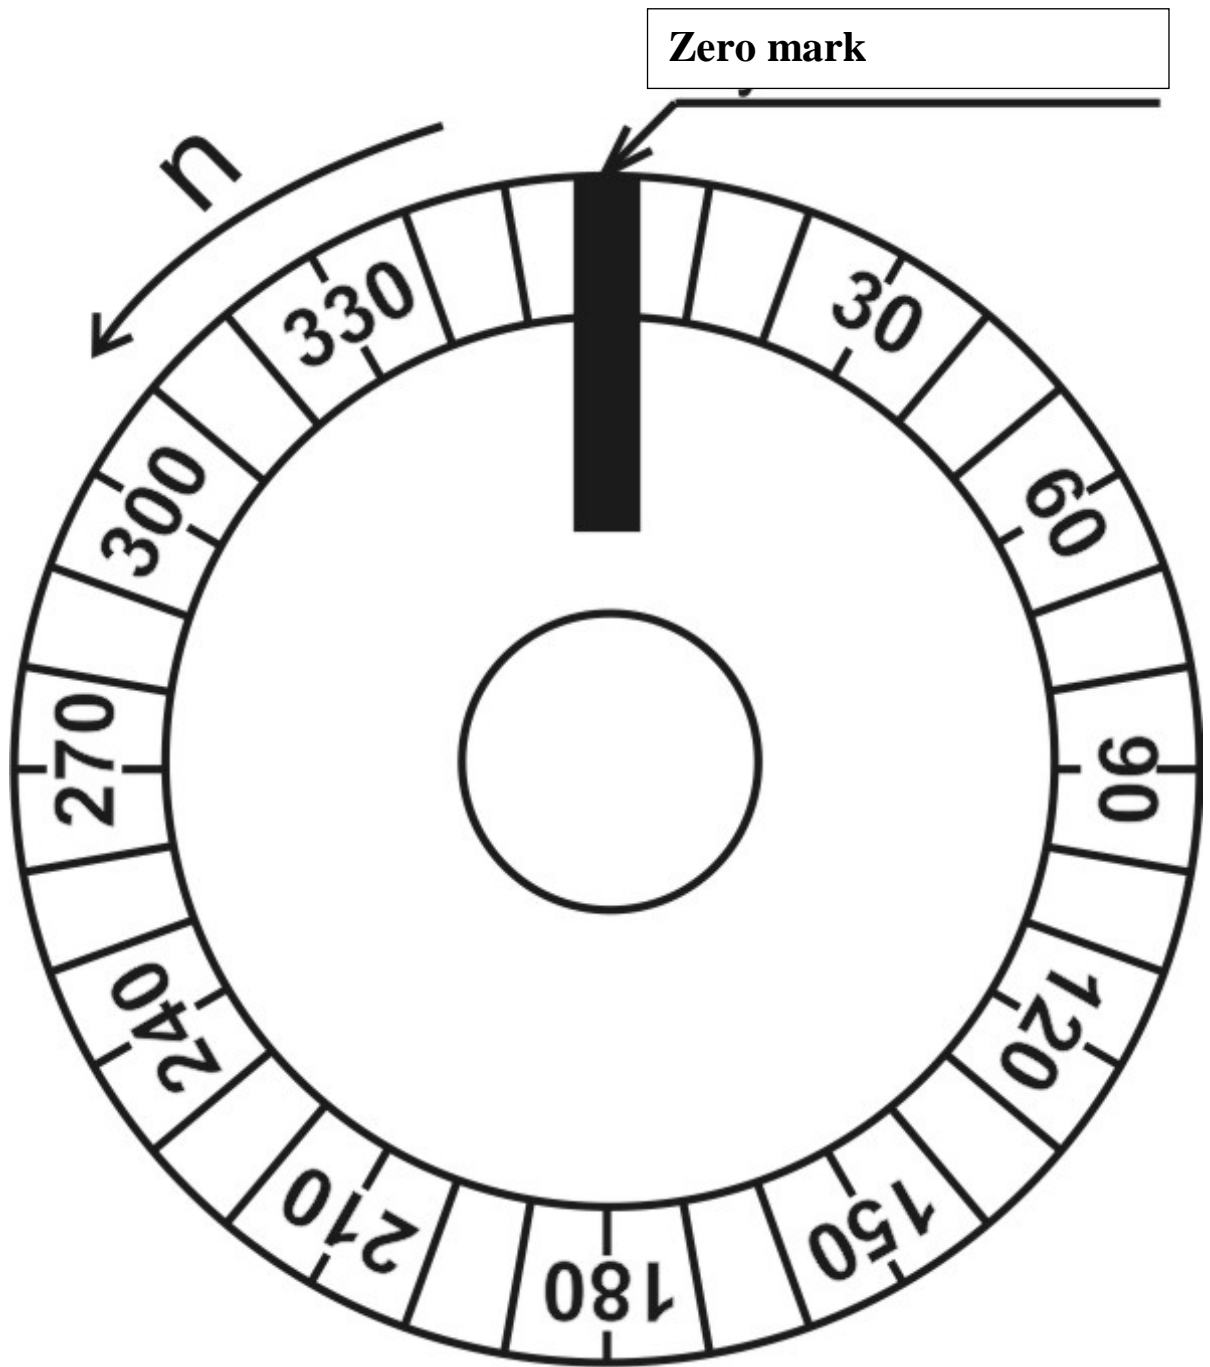
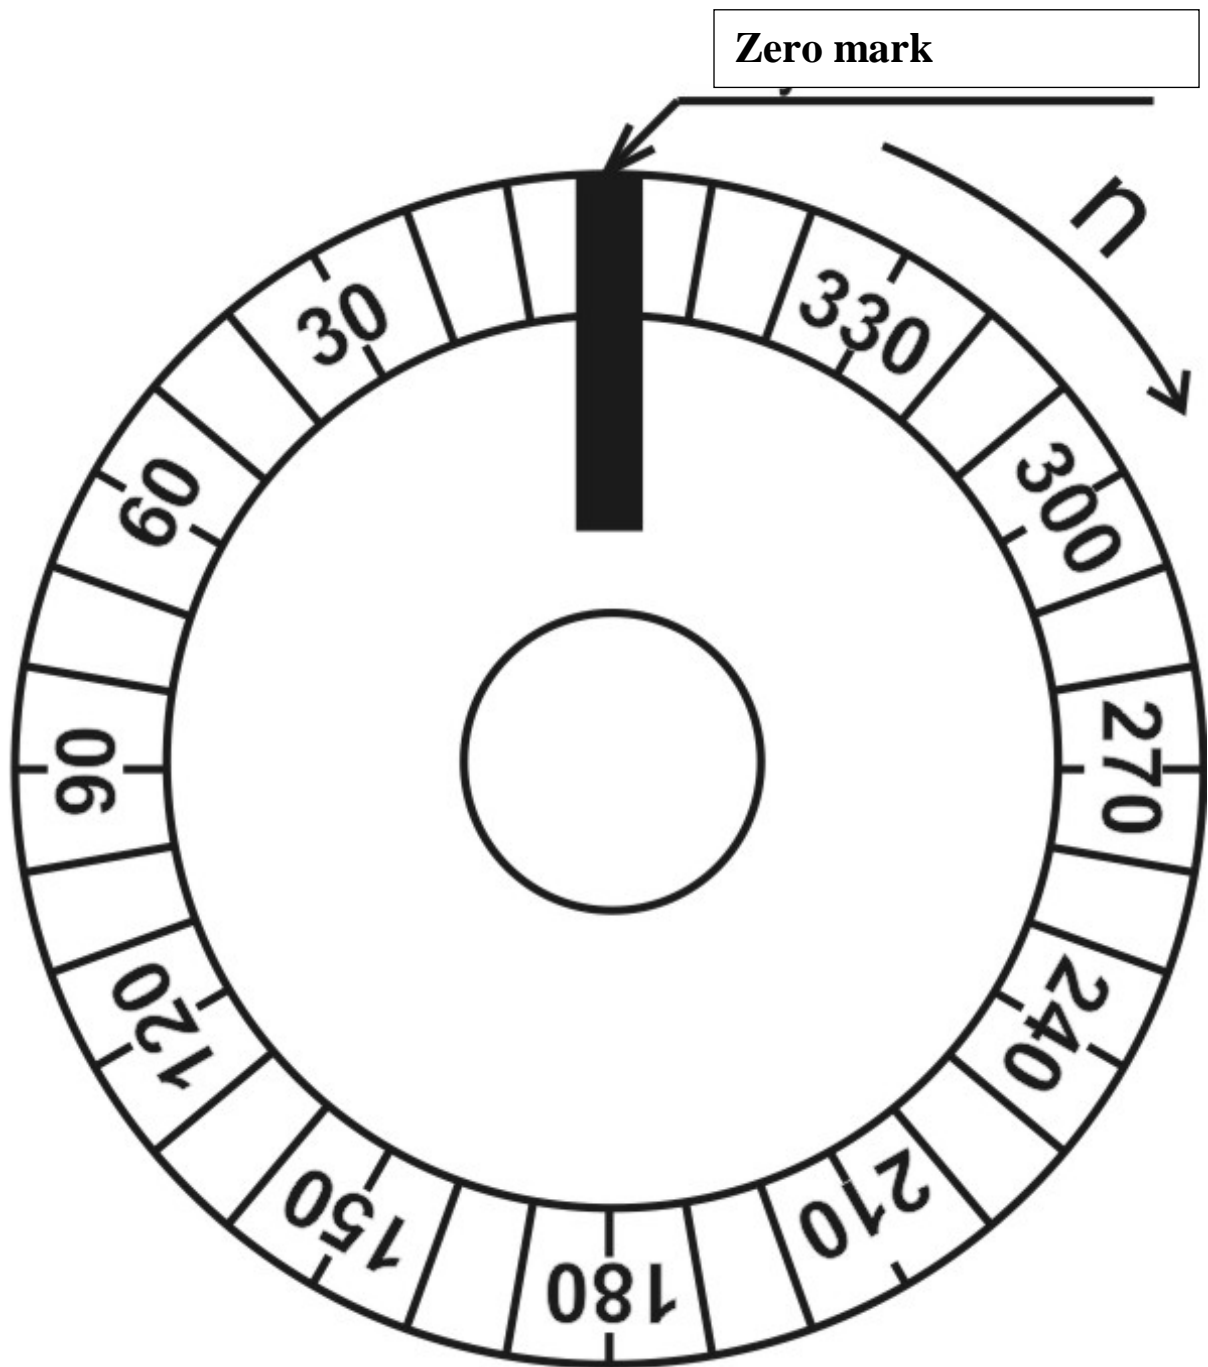

Fig. 7.1. Example of marking the scale dial used in case of dynamic balancing, when the rotor is rotated counterclockwise.
Fig. 7.2. Example of marking the scale dial used in case of dynamic balancing, when the rotor is rotated clockwise.
7.2.2 Install on the end of the shaft a dial scale with a diameter of 50 - 100 mm with an angle marking, having a step of not more than 10 degrees directed against the direction of rotation of the rotor (Figs. 7.1, 7.2). Mark with a bold radial line or point the angle mark (zero mark).
The scale dial can be cut with scissors from the paper copy of Fig. 7.1 or Fig 7.2.